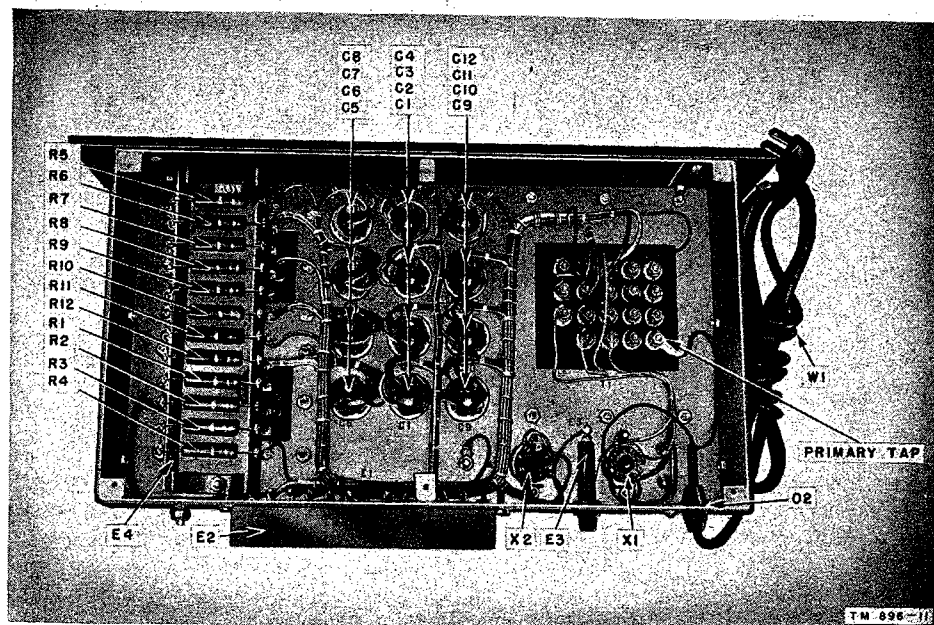

Figure 44.1 (Added.) Power Supply Unit RA-74-D, with serial numbers 1 through 390, Order No. 12618-Phila-47, chassis, bottom view.
e. A-C INPUT. Before plugging the * * * in figure 12. The primary tap of Power Supply Unit RA-74-D is indicated in figures 44.1 and 44.2. Connect the primary * * * bottom cover plate.